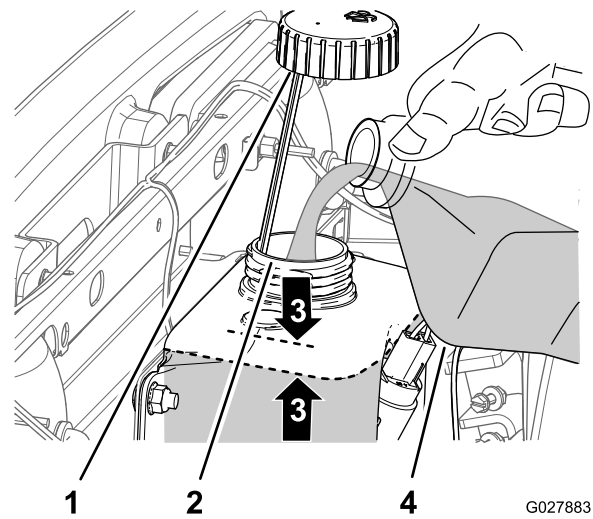

Figure 52
2. Remove the cap from the washer tank (Figure 52).
3. Add water or windshield-washer fluid through the filler neck of the tank to within 25 mm (1 inch) of the top of the tank (Figure 52).
4. Install the cap onto the filler neck securely (Figure 52).